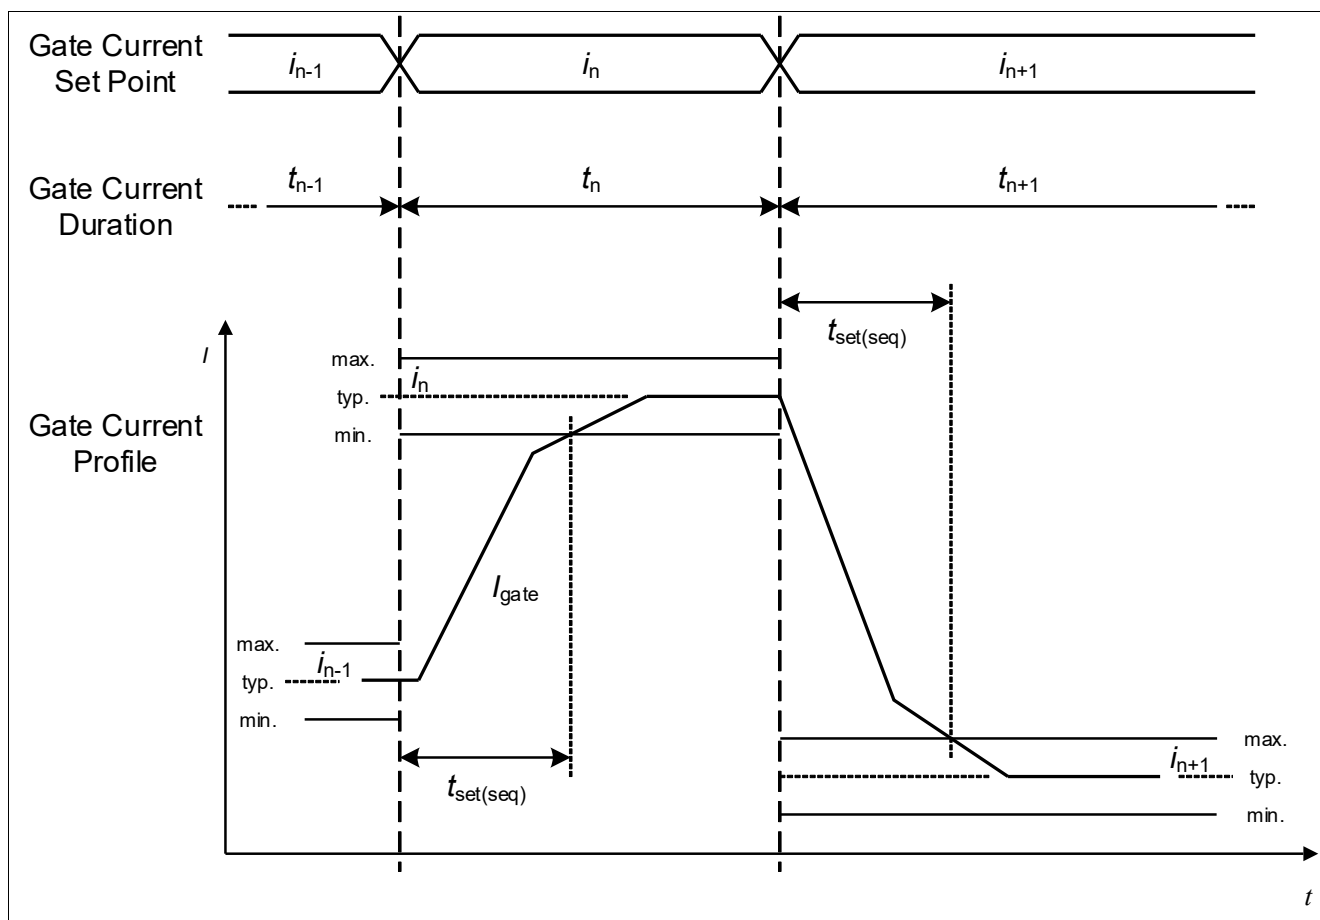

Figure 222 Gate current settling time
- At the transition between two gate current set points the actual gate driver output current settles within $t_{\text{set(seq)}}$ to the new gate current set point (see Figure 222).